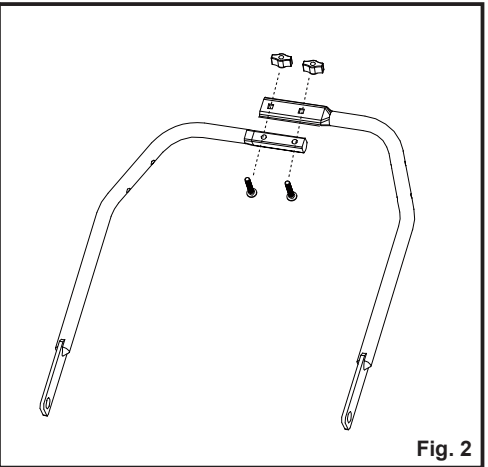

Fig. 2
- Connect the right lower handle with the left lower handle and secure with two bolts and two twist knobs (Fig. 2).